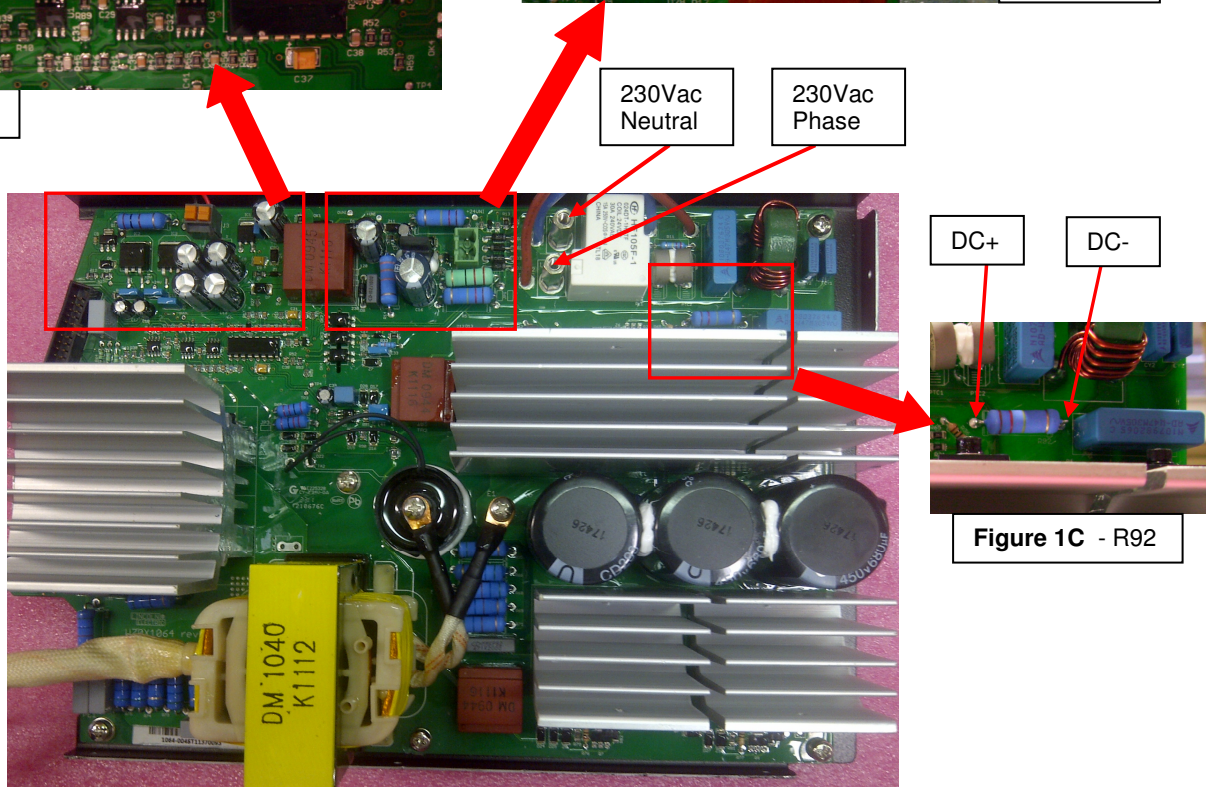

Figure 1
5. Check for 230Vac +/- 15% between "Phase" and "Neutral" connections, see **Figure 1**